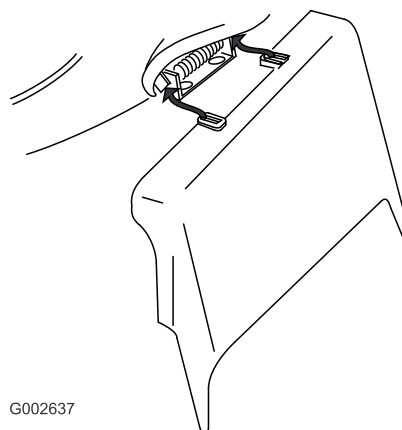

Figure 27
3. Install the side-discharge chute and close the door onto the chute (Figure 27).